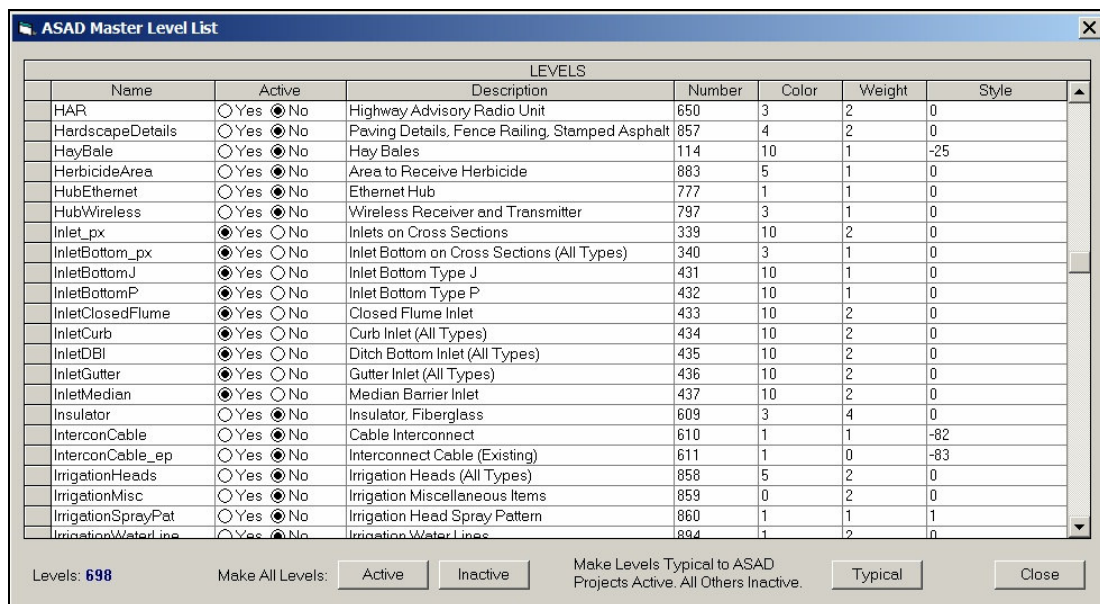

Figure 5.3
Even though FDOT currently has over 1,300 levels defined for their projects, ASAD uses only fraction of these to draw the drainage portions of a project. Because of this, ASAD maintains a 'Master Level List' in each project database (*.mdb). Use pulldown menu CAD>Levels>ASAD Master Level List to open this window (see figure 5.3). This master list of level names is updated from the Level Names Library file (see section 1.2.2 on setting the path/filename) every time a project database (*.mdb) is opened. If there is an updated levels library, simply replace the file and the next time ASAD opens it will retrieve the latest level data. The ASAD master list has two primary functions. (1) it serves as an instant resource for creating new levels in CAD files and (2) it allows you to limit the levels which populate the Level Names pulldown boxes throughout ASAD. Setting the 'Active' field to 'Yes' will allow the level to be loaded into the pull downs while 'No' will exclude the level.